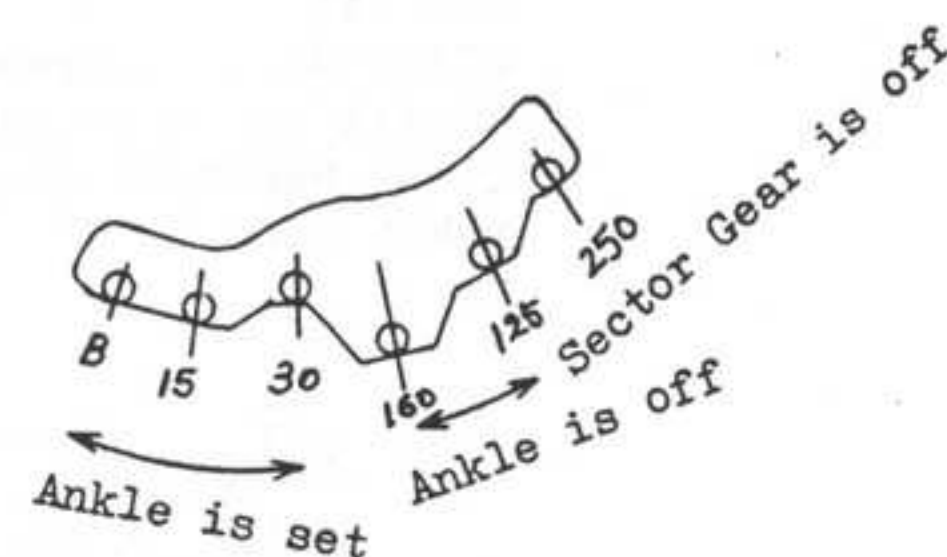

Fig 38
Fig. 38 shows relative position between Shutter speed cam (301) and sector gear drive plate pin. When correct speed can not be obtained, mend it by modifying the shape of cam.